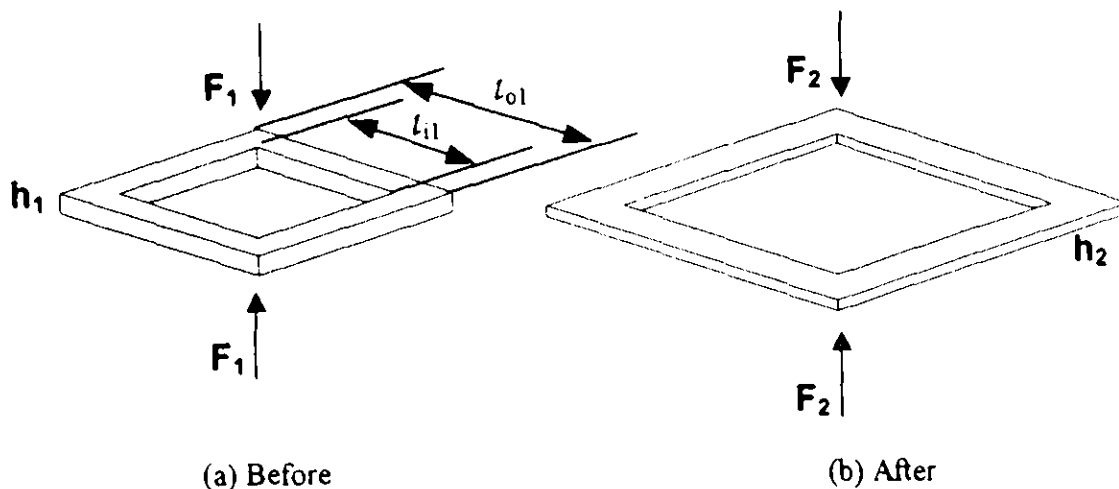

Figure 1. Forging of metallic frames
2. You would like to design a forging die to produce a metallic frame shown in Figure 1. You want to decrease the thickness from h_1 to h_2 such that $h(t) = h_1 e^{-at}$ where "a" is a given constant. The initial inner and outer side lengths of the square frames are l_{i1} and l_{o1} , respectively. Estimate the force, $F(t)$, required for this processing as a function of time. Determine the magnitude of F_2 . (15 marks)